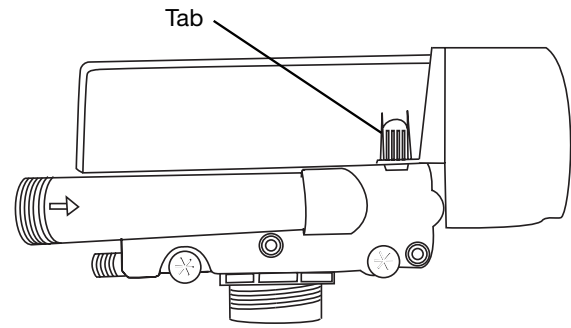

Figure 11
3. Remove the rear cover by depressing the two tabs provided on the cover, Figure 11. Lift the front of the cover and remove to expose the valve body.